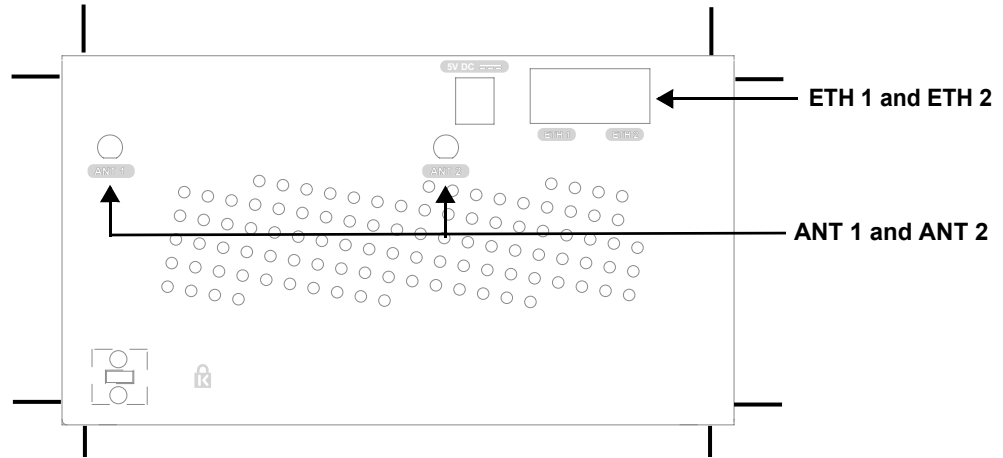

Figure 4: RS4000 Top Panel
9. On the RS4000, attach the two antenna cables to the SMA antenna connectors labeled **ANT 1** and **ANT 2** on the top panel of the RS4000 (see Figure 4) by turning the cable ends clockwise until tight.
The RS4000 antenna uses two 6' RF cables to connect to the SMA connectors on the top panel of the RS4000 (see Figure 4). The RF cables should be attached to the RS4000 as a result of the procedures described in “Wall Mounting the RS4000.”
3. Attach the two antenna cables to the SMA antenna connectors labeled **ANT 1** and **ANT 2** on the top panel of the RS4000 (see Figure 4) by turning the cable ends clockwise until tight.